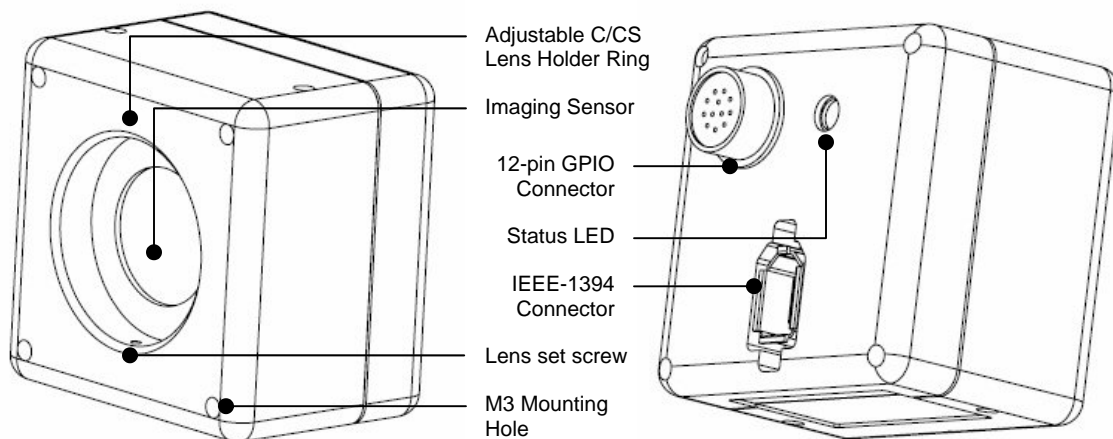

Figure 1: Picture of Scorpion module (front and back)
The *Scorpion* has a set of eight (8) general-purpose IO pins that can be accessed via the Hirose HR10 (12-pin) external interface shown in *Figure 1: Picture of Scorpion module (front and back)*. These IO pins can be configured to accept an input signal to externally trigger the camera or to send an output signal or strobe to an external device. To determine how to configure the GPIO pins, please consult the *PGR IEEE-1394 Digital Camera Register Reference*.